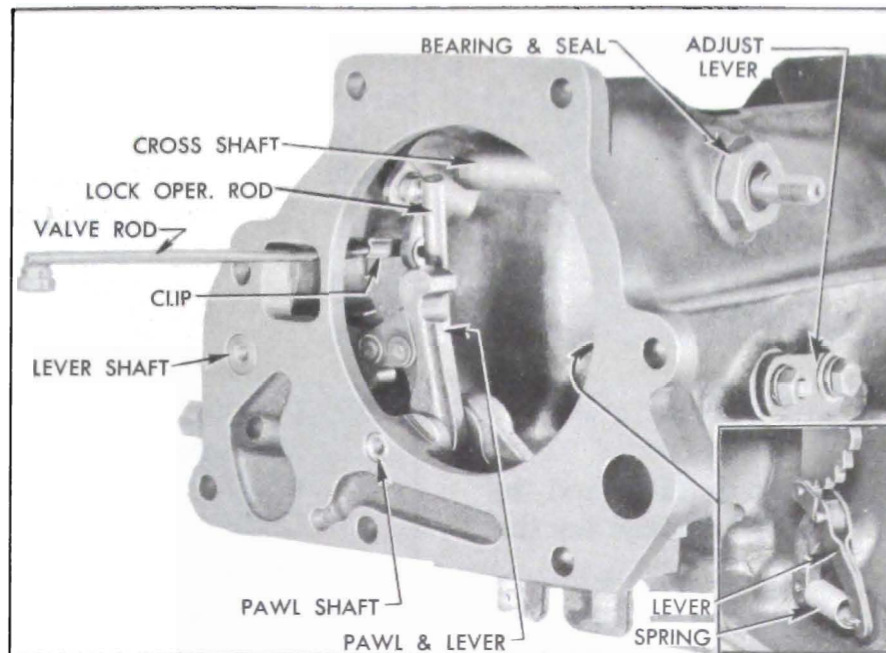

Figure 5-79—Parts in Rear Bearing Retainer
1. Remove spring from detent roller lever and support inside the rear bearing retainer, remove adjusting lever on outside of retainer; then remove lever and support assembly. See figure 5-79.
end from cross shaft lever. The rod end is provided with a lockwasher. See figure 5-79.
4. Screw a  $\frac{1}{4}$ "-20 bolt into the parking lock operating lever shaft and the lock pawl shaft and pull these parts from bearing retainer, then remove the lock pawl and lever assembly. See figure 5-79.
2. Install parking lock pawl and lever assembly in rear bearing retainer, then install the lock pawl shaft and operating lever shaft with tapped ends outward. See figure 5-79.